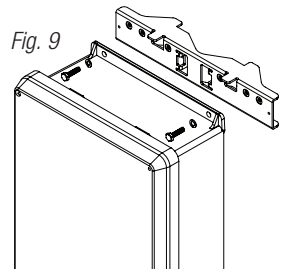
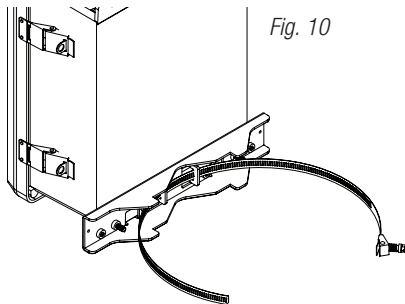

Fig. 9
Fig. 10
2. Once the desired height of the top Pole Mount bracket is achieved, tighten the straps down by sliding open end of the strap through the locking mechanism on the strap, then tighten the screw with flat head screwdriver or 5/16" hex socket driver (Fig. 9, pg. 11 and Fig. 10, pg. 11).
4. Thread the second wormgear quick release strap through the slots on the back of the bottom mounting bracket (Fig. 9, pg. 11).
6. Tighten the straps of the bottom bracket down by sliding the open end of the strap through the locking mechanism on the strap, then tighten screw with flat head screwdriver or 5/16" hex socket driver (Fig. 10, 11, pg. 11).